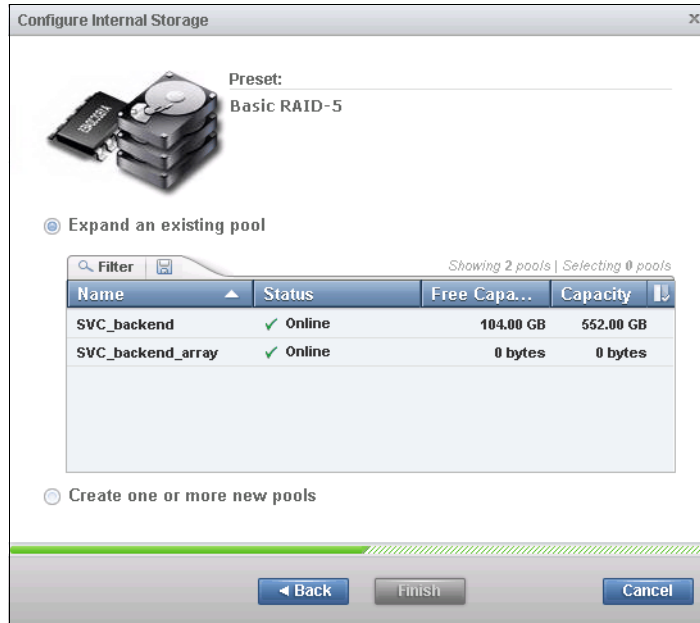

Figure 7-21 Assign capacity to an existing storage pool
1. Choose the storage pool you want to assign the capacity to (Figure 7-21). Select either an existing storage pool that does not contain MDisks, or a pool that contains MDisks with similar performance characteristics, which is listed automatically.